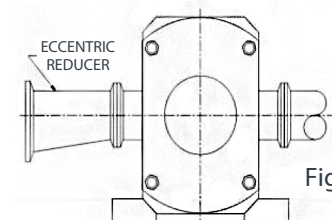

Figure 2
- Slope inlet piping up to pump to avoid air pockets or if suction piping is larger than the pump inlet, use an eccentric reducer, straight side up, to prevent air pockets from forming. (Figure 2)